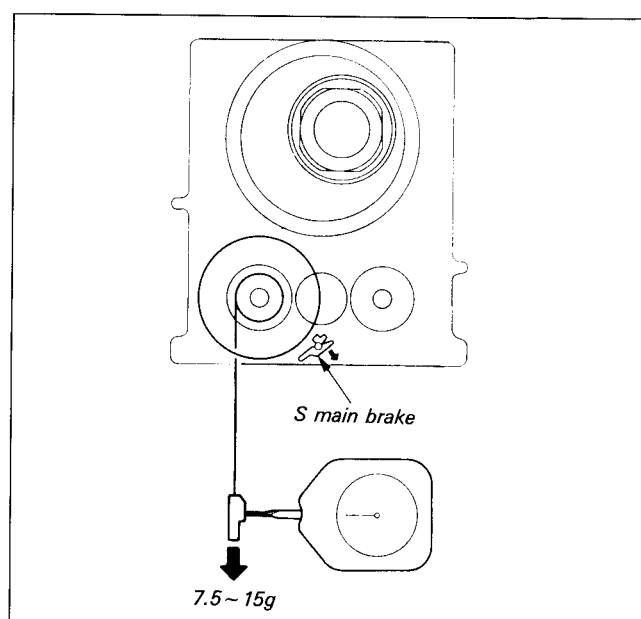

Fig. 7-61.
1. REV Brake Torque (See Fig. 7-61.)